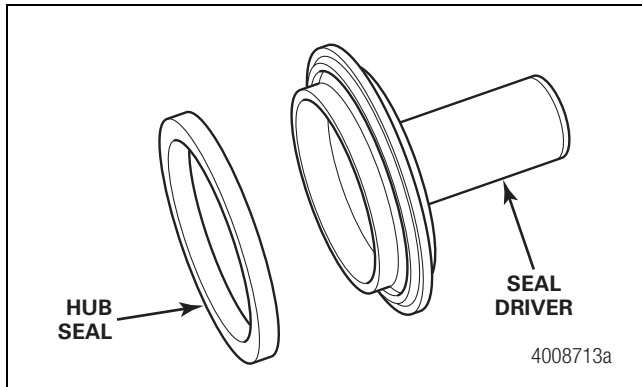
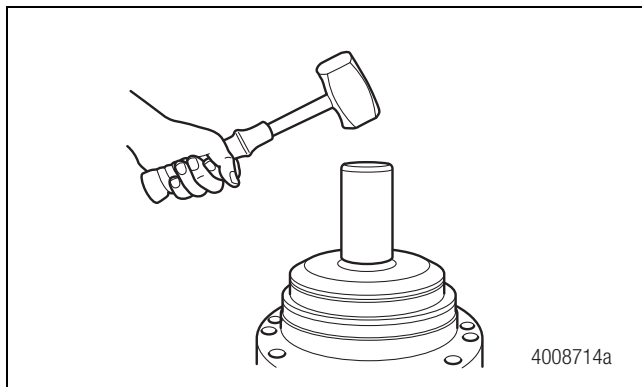

Figure 5.19
Figure 5.20
2. If necessary, lubricate a new inner hub seal. Use a seal driver to press it into the hub. Figure 5.19 and Figure 5.20.